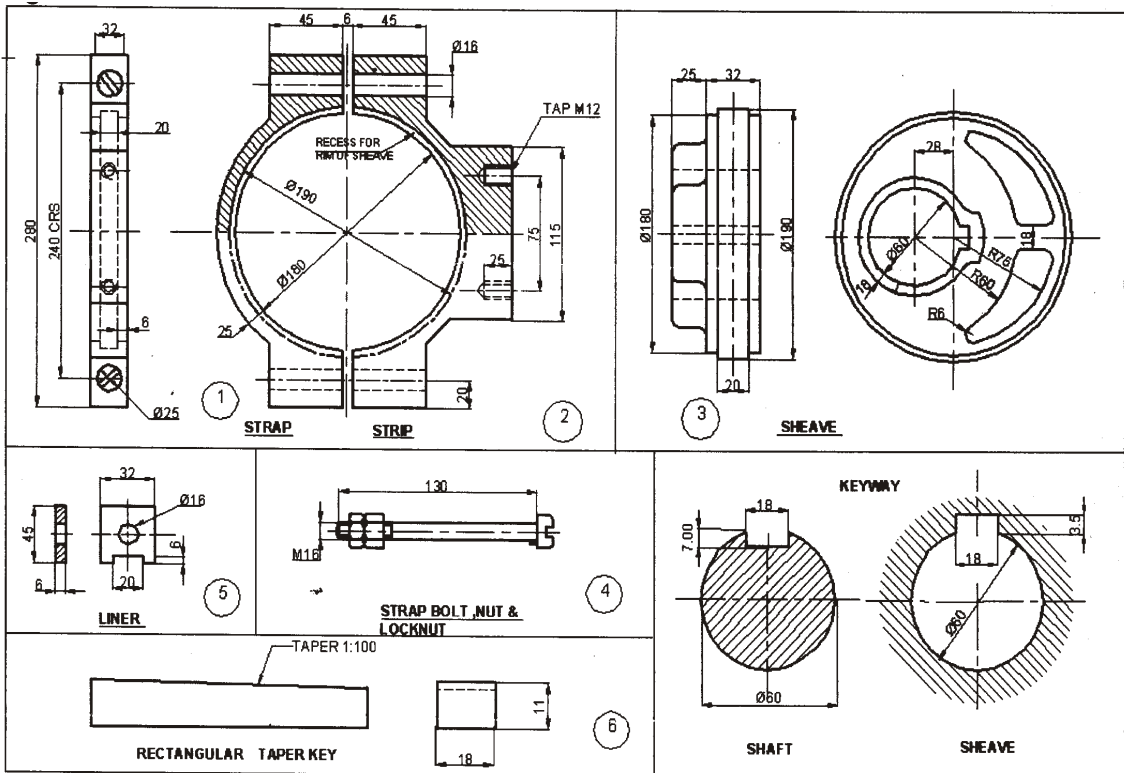

Fig. 2 : Eccentric Parts
6. Assemble the parts of eccentric shown in Fig. 2 (Page 4) and draw the following views :  $25 + 15 = 40$